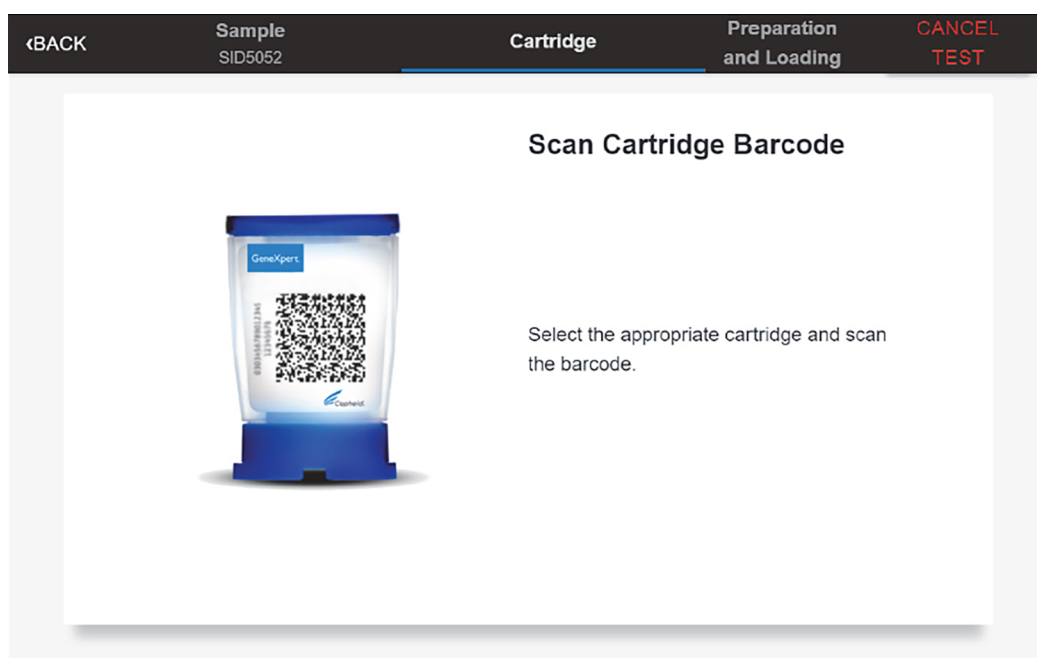

Figure 17. Scan Cartridge Barcode Screen
4. Verify the Sample ID and touch **CONFIRM**. The Scan Cartridge Barcode screen appears (see Figure 17).